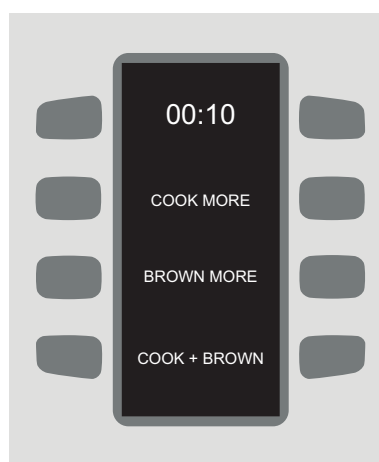

FIGURE 14: “Done” Screen 2
- b. Cook More: Press this soft key for additional cooking options (Figure 14):